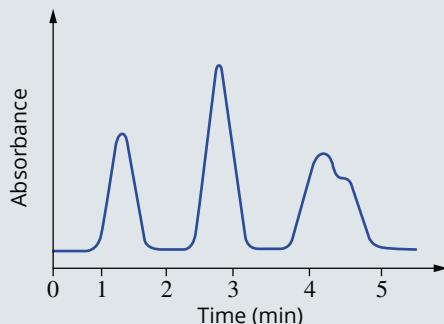

FIGURE 13.3.6 Chromatogram obtained from a herbal tea extract.
- 11** A herbal tea extract was analysed by HPLC. The chromatogram obtained is shown in Figure 13.3.6.